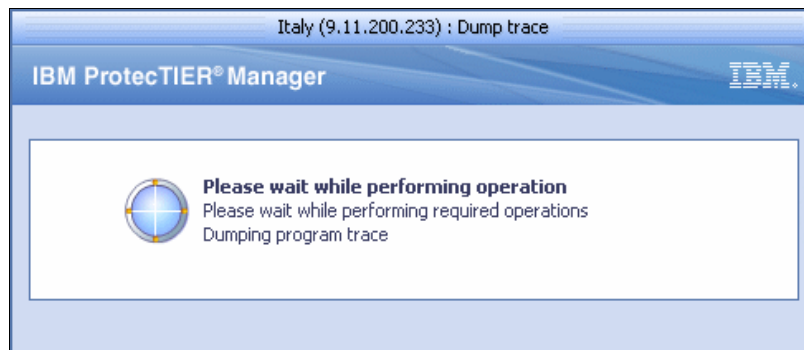

Figure 10-105 Perform dumping program trace
3. Click **Yes**. The trace buffer information is saved to the ProtecTIER system (Figure 10-105).